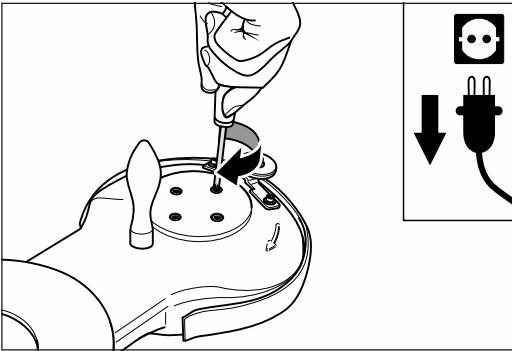

Fig. 77 Using the countersunk screws to tighten the bearing unit of the sanding disc wheel.
- 19 Screw the countersunk screws on the attachment into the bearing unit of the sanding disc wheel (fig. 77). Make sure that the bearing unit is correctly seated in the attachment. Then tighten the countersunk screws firmly.